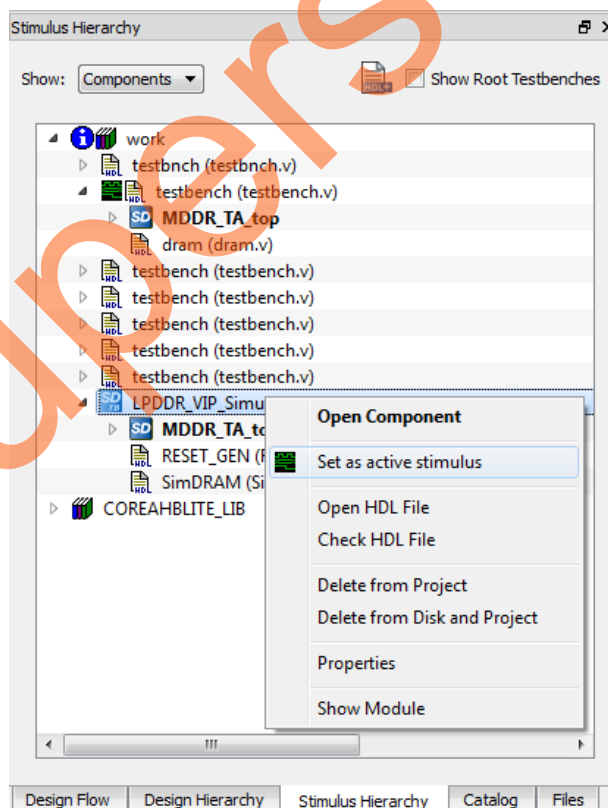

Figure 13 • Stimulus Hierarchy
11. Click the **Stimulus Hierarchy** tab. Figure 13 shows the **Stimulus Hierarchy** window.
12. Right-click **LPDDR_VIP_Simulation** and select **Set as active stimulus** to set the SmartDesign testbench as active stimulus. Figure 13 shows the **Stimulus Hierarchy** window.